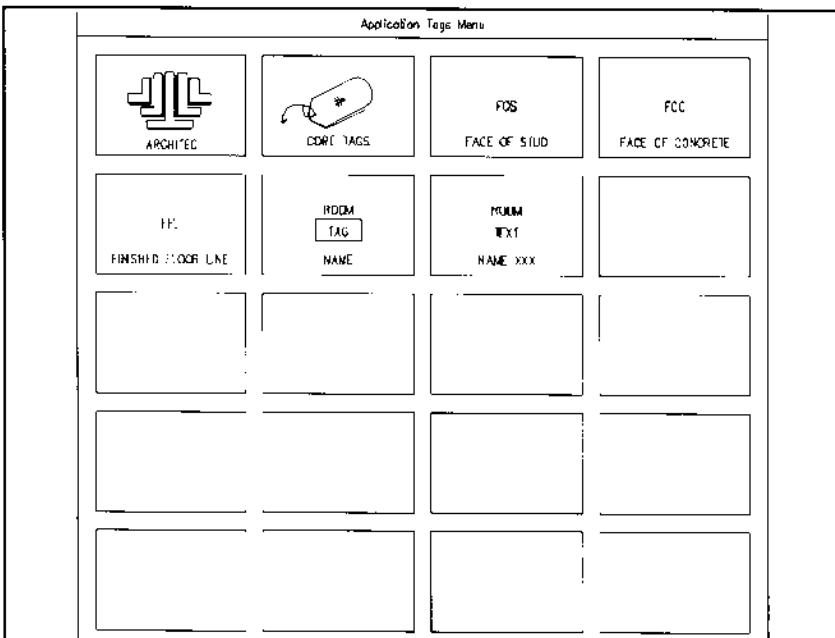

Figure 14.
- Figure 14 identifies specific Application Tags located under the Architec pulldown menu.